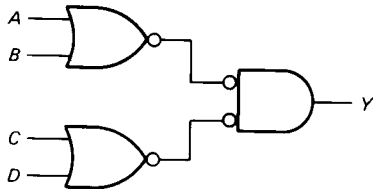

Fig. 3-29
- 3-12. What is the output in Fig. 3-29 if all inputs are low? If all inputs are high?
3-13. How many words are in the truth table of Fig. 3-29. What is the value of  $Y$  for each of the following?
3-14. Which  $ABCD$  input words does the circuits of Fig. 3-29 recognize?